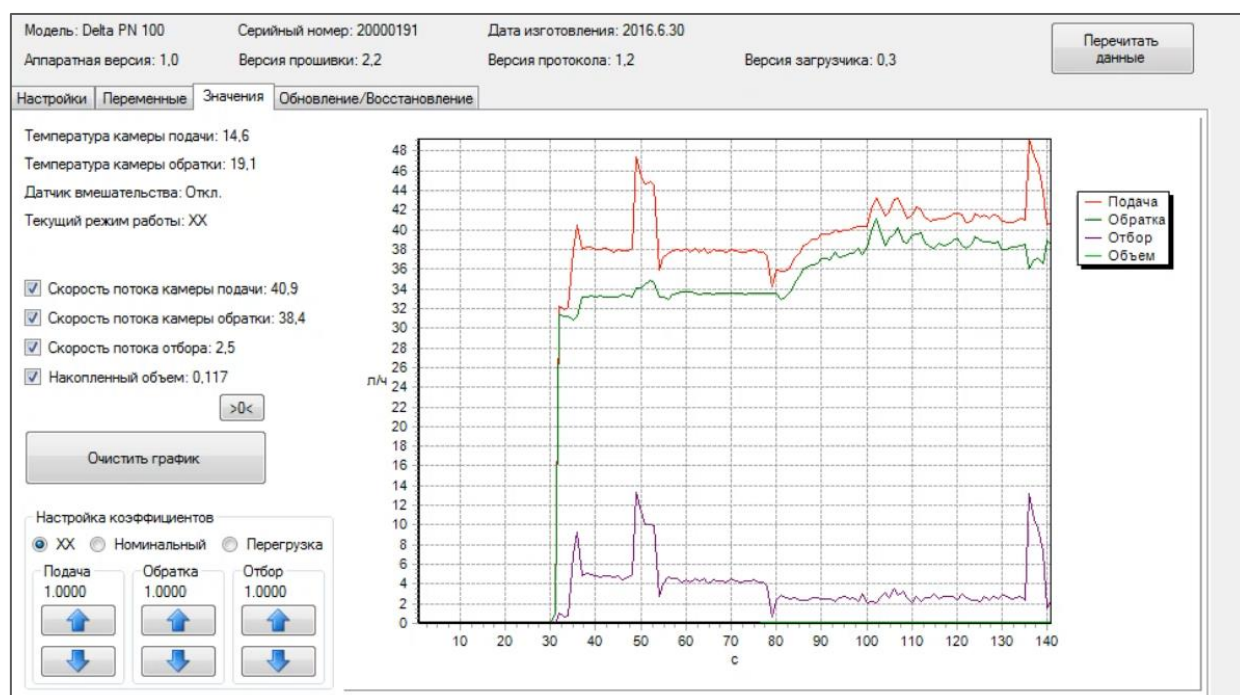

fig. 6.1. Values tab
- The tab **“Values”** is used for diagnostics of flowmeter operation. The tab displays current values of the instant fuel consumption in the measuring chambers as digital values and line graphs (fig. 6.1).